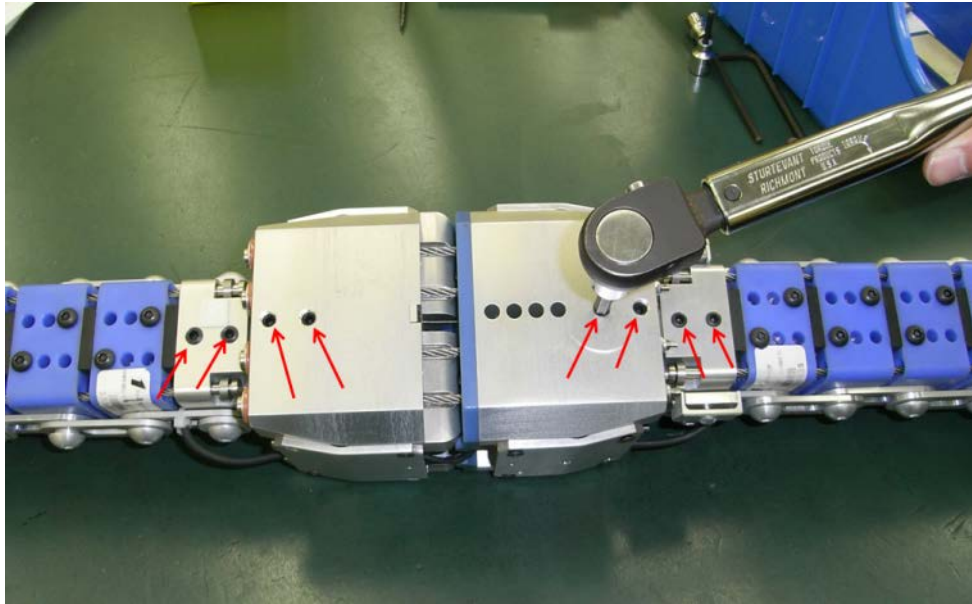

Figure 88 . Check screws with 8 Nm torque
Step 1: Check the eight M8 set screws shown in Figure 88 are tightened to 8 Nm;
Step 1: Check the eight M8 set screws shown in Figure 88 are tightened to 8 Nm.